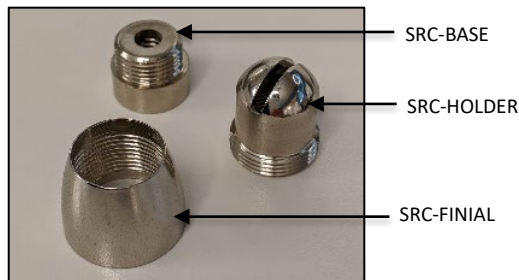

FIG. 12 - SLIP RING COUPLER (1)
- Remove STRAIN RELIEF placed around the CORD in the CANOPY. Dis-assemble the SLIP RING COUPLER (1) into three components SRC-BASE, SRC-HOLDER and SRC-FINIAL as shown below in FIG.12.